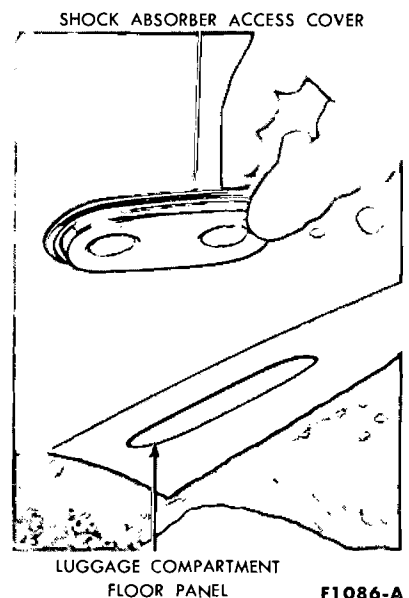

FIG. 8—Rear Shock Absorber Access Cover
2. On the passenger car, remove the shock absorber access cover from the luggage compartment (Fig. 8).